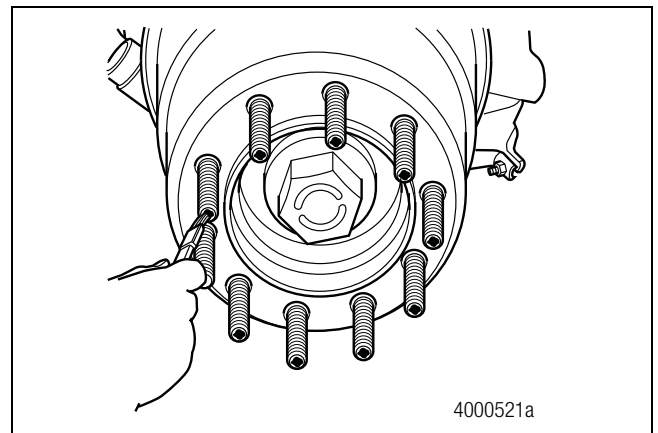

Figure 6.47
3. Mark the wheel and hub relationship. Remove the wheel and tire assembly. Use a paint stick to mark the wheel studs you are removing. Figure 6.47. Do not reuse the studs.